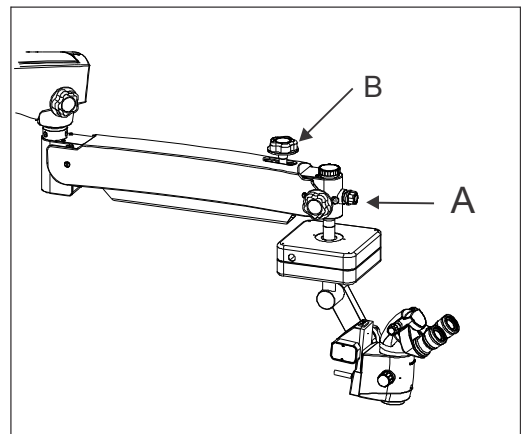

Fig. 9
It is located in front of the suspension arm shown as (A) in Fig. 9. Brightness of field of view can be adjusted as per user comfort using intensity control knob.
This knob helps you to lock the movement of swivel arm at the desired position after initial focusing of the attendance area by turning it clockwise, knob is shown as (B) in Fig. 9 .
- 3 Lock the Up & Down movement of suspension arm using locking knob(B) in fig. 9 after coarse focusing of the attendance area.